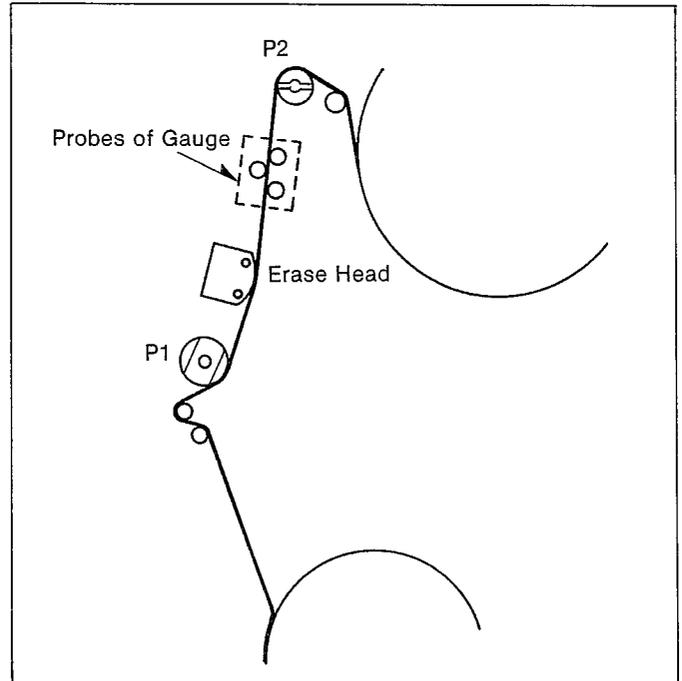

Fig. M4 Measurement of Back Tension
2. Insert the Back Tension Meter into the path of a tape, and measure the back tension to be within specification as shown in Fig. M4.